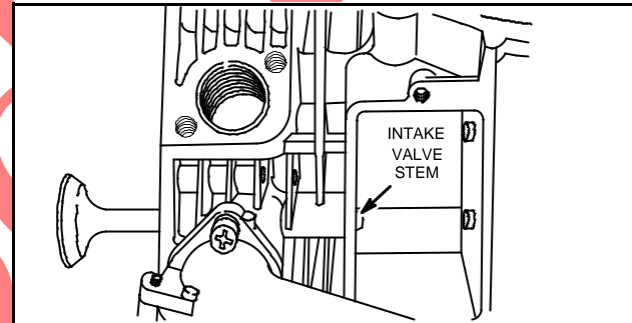

Fig. 31
1. Coat valve stems with valve guide lubricant, Tool #93963, and install in intake valve guide until stem just starts to enter valve tappet chamber, Fig. 31.